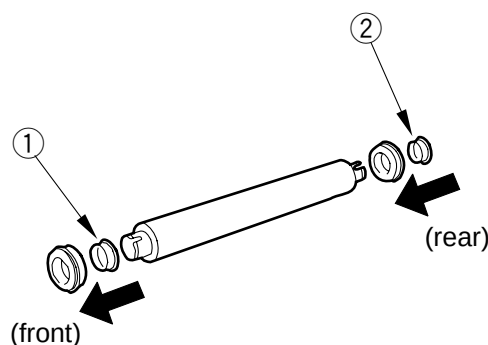

Figure 6-221a
- b. Be sure to install the collars ① ② of the bushing in the correct order shown in Figure 6-221a.